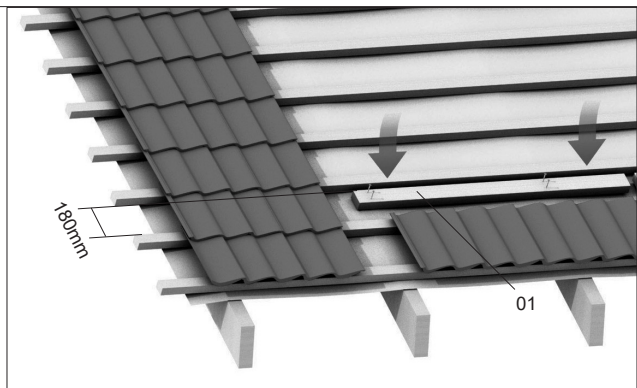
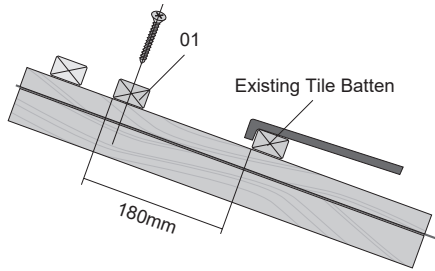

Figure 6-4: Remove Roof Covering
Figure 6-6: Bottom Fixing Batten
2. Refer to Figure 6-4. Remove the last roof tile in the row and position the bottom fixing batten (01) supplied by installer between 180 and 230mm up from the existing roof batten below - such that the fold in the bottom flashing sits exactly on the top edge of the tiles - see Figures 6-6 and 6-7. Secure the bottom batten to the rafters with screws (supplied by installer).
3. Refer to Figures 6-6 and 6-7. Align the upper middle batten (02-B), the lower middle batten - portrait only (02-A) and top (03) to the bottom horizontal batten (01). Refer to Table 6-3 for the intervals between the battens. Secure the battens to the rafters with screws (supplied by installer).